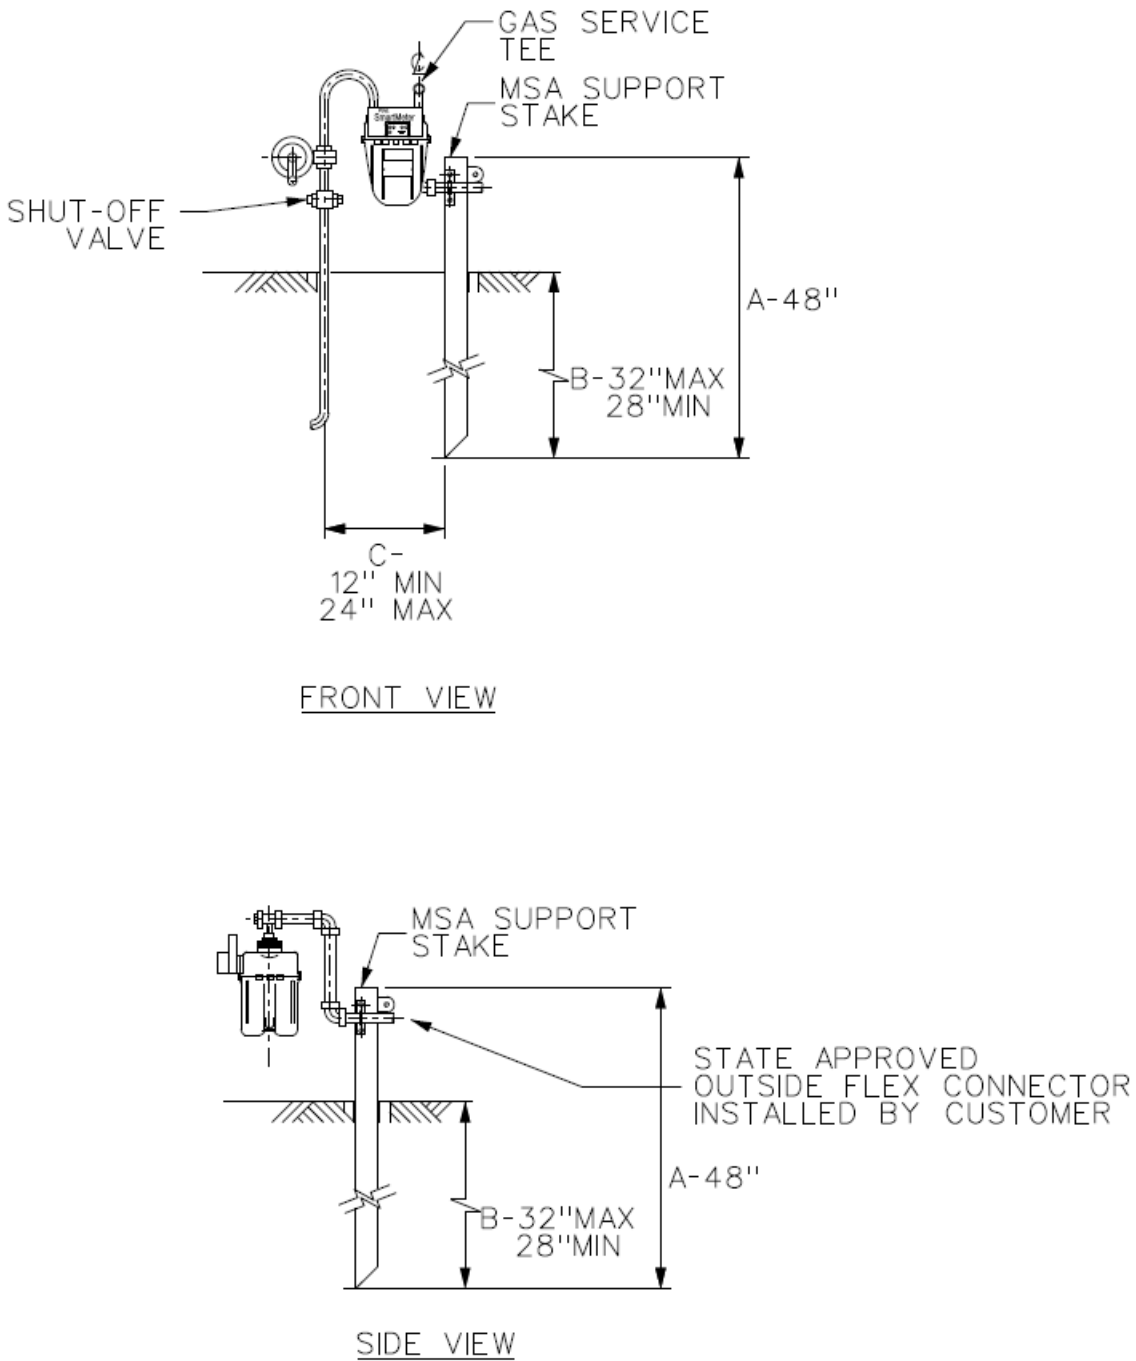

Figure 1. Mobile Home Diaphragm Meter Set – Profile View
3. Pacific Gas and Electric Company (PG&E or Company) piping in the meter set terminates with the 3/4" fitting on the meter outlet as shown in Figure 1.
4. Install the meter using a meter stake shown in Figure 1.
- D. Must be installed in well compacted soil or in concrete as shown in Figure 1.